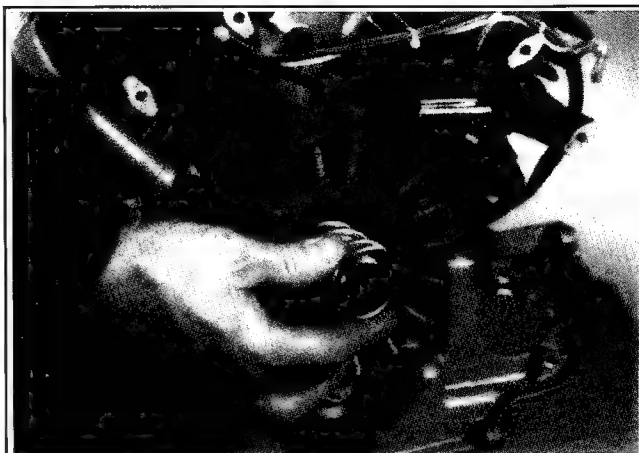

Figure 11-36. Installing Tension Spring.
- Install tension spring. See Figure 11-36.